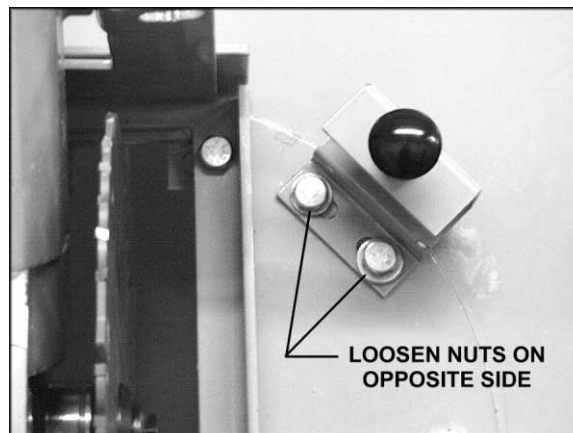

Figure 21
6. Loosen, but do not remove, the two nuts holding the indexing pin assembly. See Figure 21.